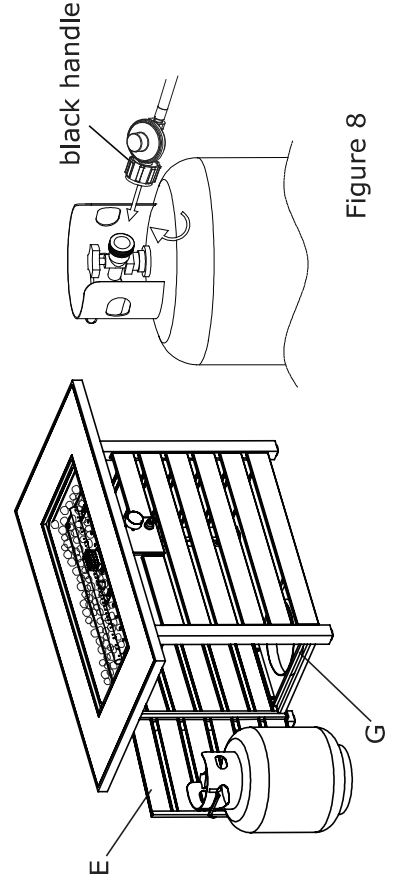

Figure 8
8. Open the door panel (E). Place the gas cylinder into the gas cylinder support (G) and connect the regulator by turning the black handle clockwise to tighten. To remove the regulator, turn the black handle counter-clockwise.
Secure the gas cylinder by tightening clockwise the retention point found on gas cylinder support (G), (see Figure 8), so that the gas cylinder cannot move from side to side or fall down. The knob on the control panel is turned all the way to the "OFF" position when the fire pit is NOT in use.